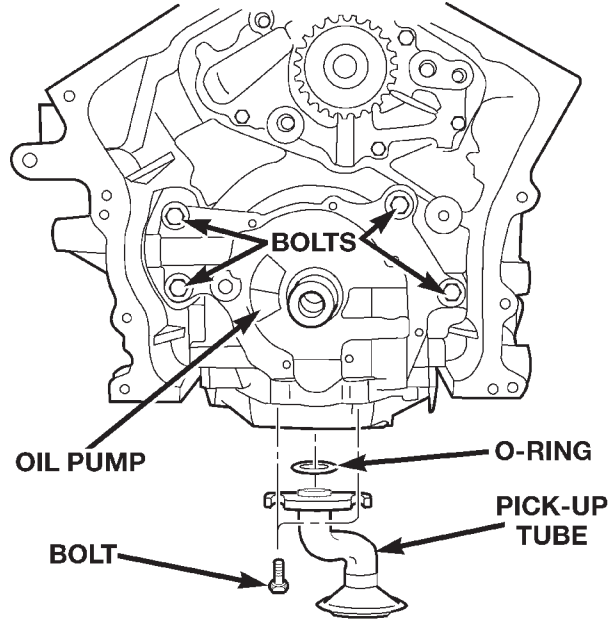

Fig. 77 Oil Pump and Pick-up Tube
- (1) Refer to procedure outlined in this section for removing the following components:
- (2) Remove oil pick-up tube and O-ring (Fig. 77).
- (3) Remove oil pump attaching bolts (Fig. 77).
- (4) Remove oil pump.
- (1) Prime oil pump before installation by filling rotor cavity with engine oil.
- (2) Install oil pump carefully over crankshaft and into position.
- (3) Install oil pump attaching bolts. Tighten bolts to 28 N·m (250 in. lbs.) (Fig. 77).
- (4) Install oil pick-up tube with new O-ring. Lubricate O-ring before installation. Tighten attaching bolts to 28 N·m (250 in. lbs.) (Fig. 77).
- (5) Install the following remaining components following procedures outlined in this section:
- (6) Fill Crankcase with proper engine oil to correct level.